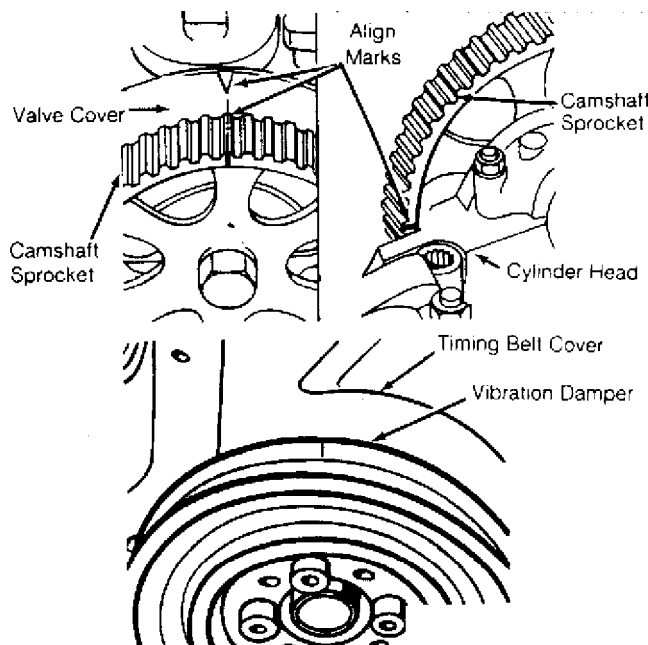

Fig. 13: Aligning 2.0L Camshaft & Crankshaft Pulley Timing Marks (16-Valve)
2) If valve cover is installed, mark on front of camshaft sprocket must align with mark on valve cover. If valve cover is removed, place camshaft sprocket mark even with valve cover surface. See Figs. 13 and 14.
3) Align vibration damper mark with mark on lower timing belt cover. See Fig. 13. Install timing belt around camshaft sprocket. Install Timing Belt Tension Scale (VW 210). To tension belt, rotate belt tensioner clockwise until tension scale reads 13-14. By hand, rotate crankshaft 2 turns and check timing mark alignment. To complete installation, reverse removal procedure.